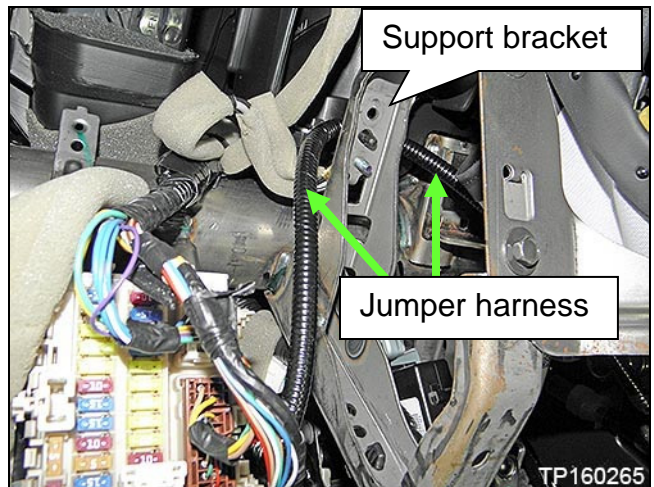

Figure 8
6. Route the jumper harness behind the support bracket as shown in Figure 8.